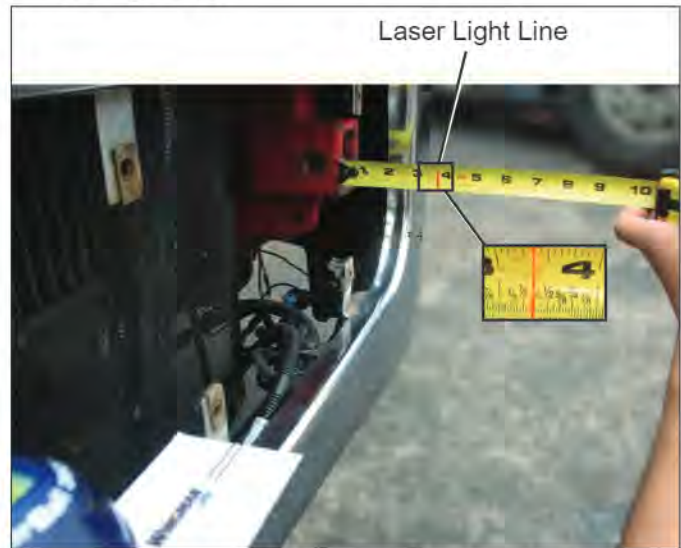

FIGURE 30 - LATERAL ALIGNMENT VERIFICATION
5. Using a ruler or tape measure, measure the distance from a symmetrical vehicle point (such as the tow hooks) to the laser light line. Record this measurement. See Figure 30.